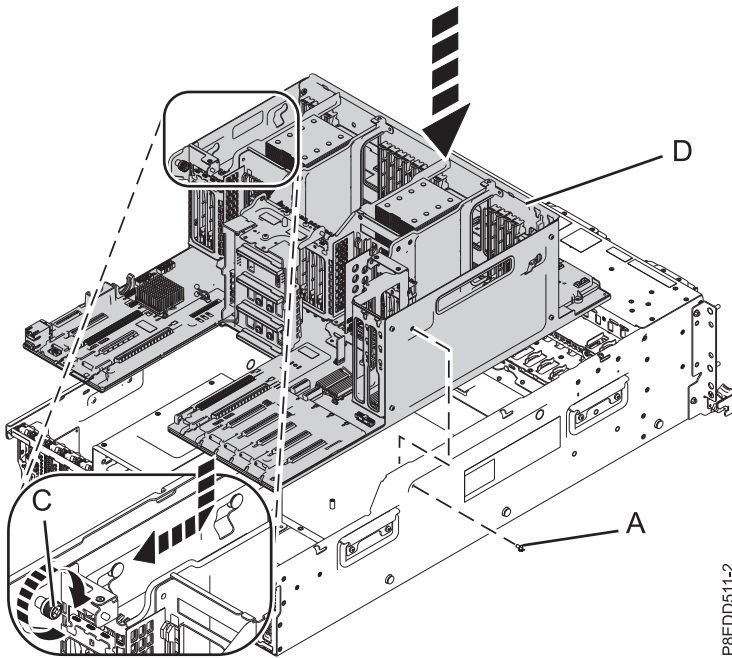

Figure 22. Installing the backplane
- a. Using the top guide rails towards the front of the replacement backplane (**D**), slide it in the direction that is shown to install it in the chassis as is shown in Figure 22 on page 22.